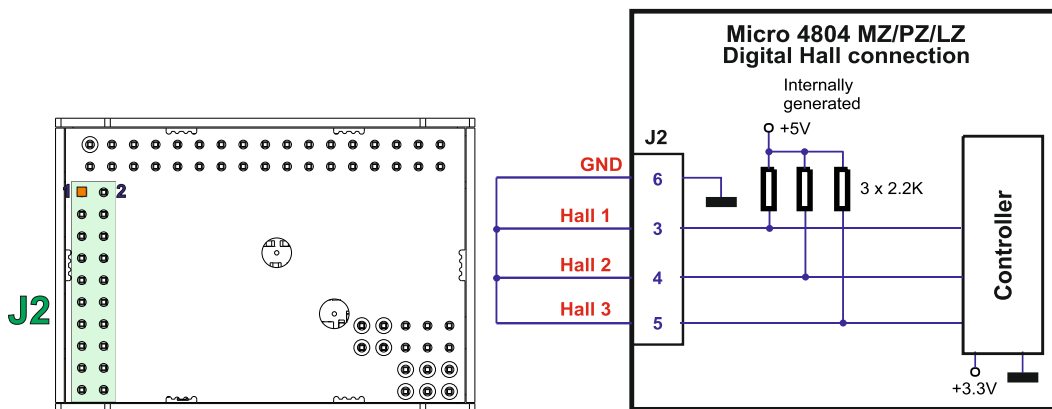
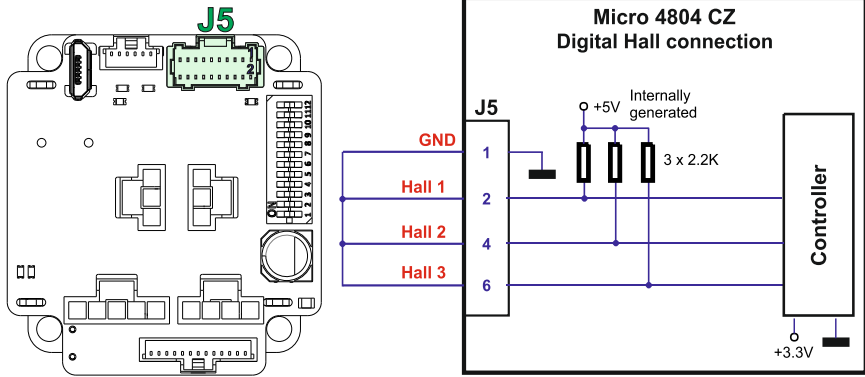

Figure 3-75 Temporary connection during power-on to invalidate the Setup table for Micro 4804 MZ/PZ/LZ
Figure 3-76 Temporary connection during power-on to invalidate the Setup table for Micro 4804 CZ
- Hardware2 – by temporary connecting all digital Hall inputs to GND, during the power-on for about 1 second, until the green LED is turned on, as shown in Figure 3-75 and Figure 3-76. This option is particularly useful when it is not possible to communicate with the drive.